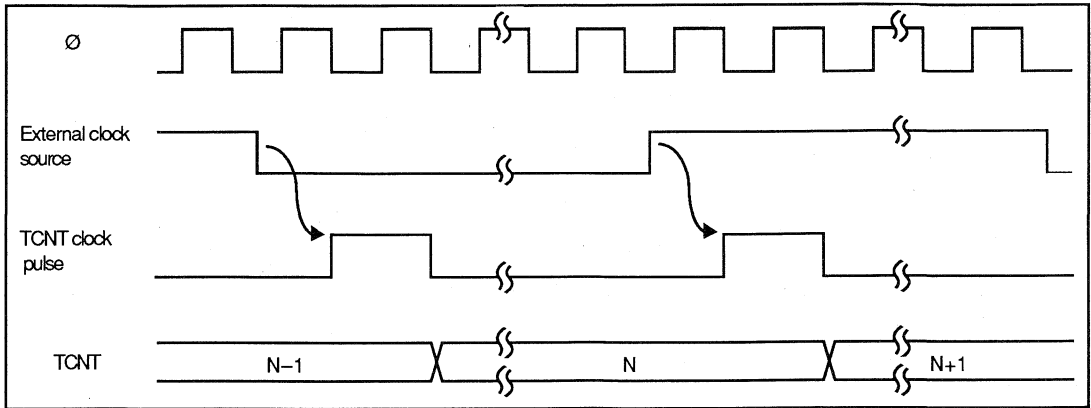

Figure 7-3. Count Timing for External Clock Input
**External Clock:** If external clock input (TMCI) is selected, the timer counter can increment on the rising edge, the falling edge, or both edges of the external clock signal. Figure 7-3 shows incrementation on both edges of the external clock signal.